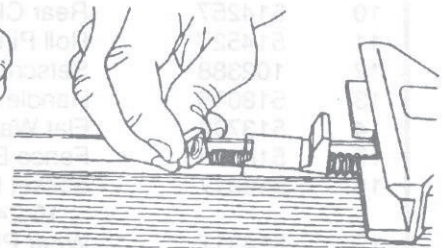

Fig. 6
4. Place the front fence lock (19) and then the special hex nut (20) on the shaft of the handle, as illustrated in Fig. 6.